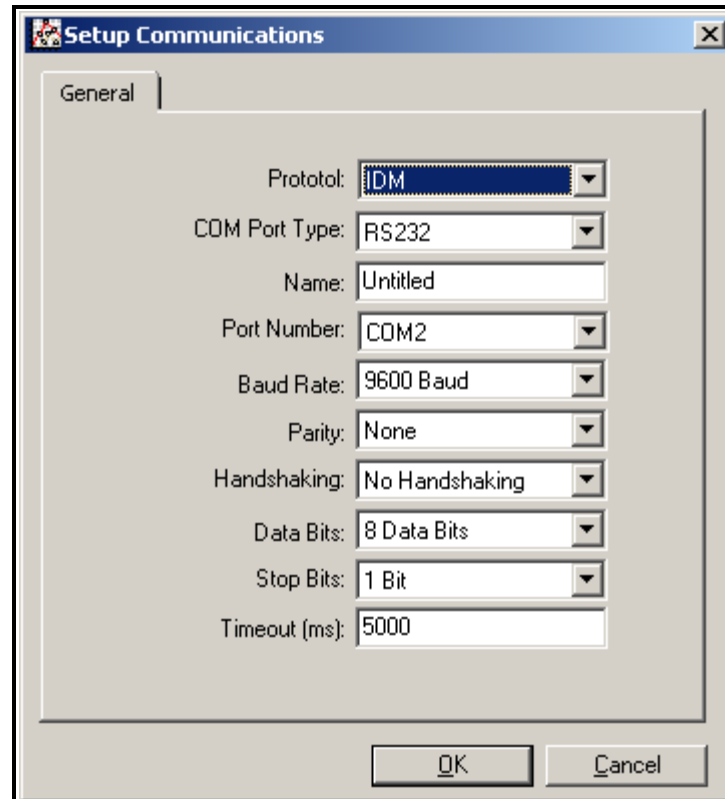

Figure 19: *Setup Communications* Screen
- Click on the “*Communications Port*” option to select it. The *Setup Communications* screen appears similar to Figure 19 below.